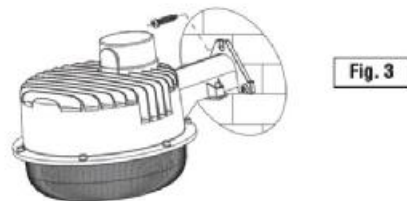

Fig. 3
4. Hook the fixture onto the two inserted screws, then insert and tighten the top screw, as shown in Fig. 3. Finally, tighten the two lower-most screws.